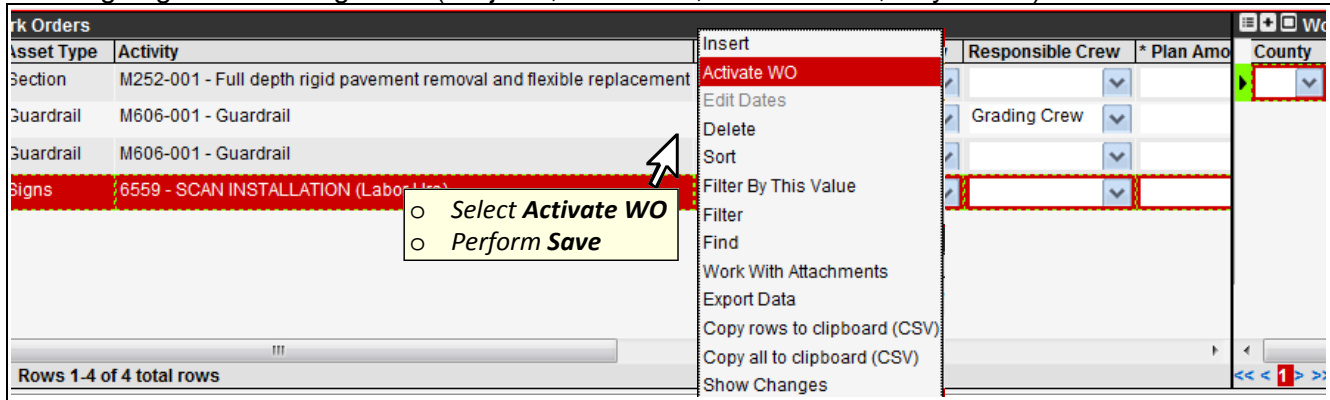

Figure 5-16. Issue ~ PM – Work Orders Pane (Activate WO)
10. When completed with Work Order edits, perform an **Activate WO** function, to activate the Work Order (Figure 5-16).